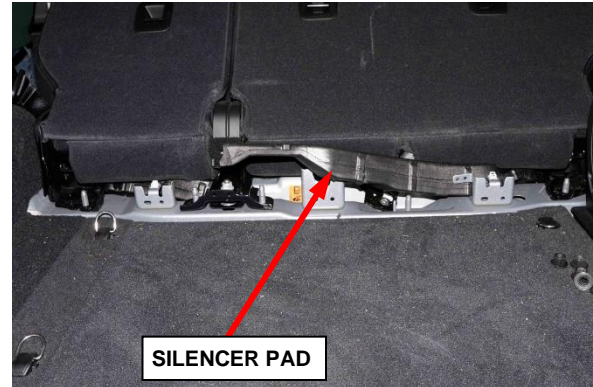

Figure 28 – Silencer Pad
- 51. Remove silencer pad (Figure 28).
69. Install the silencer pad (Figure 28).